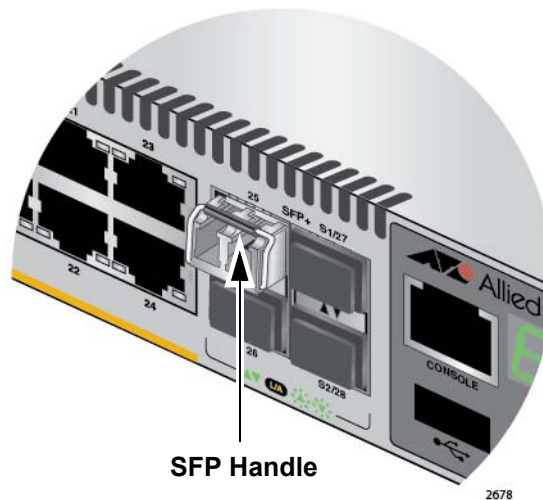

Figure 27. Positioning the SFP or SFP+ Handle in the Upright Position
6. Verify the position of the handle on the SFP transceiver. If the transceiver is in a top slot, the handle should be in the upright position, as shown in Figure 27. If the transceiver is in a bottom slot, the handle should be in the down position.